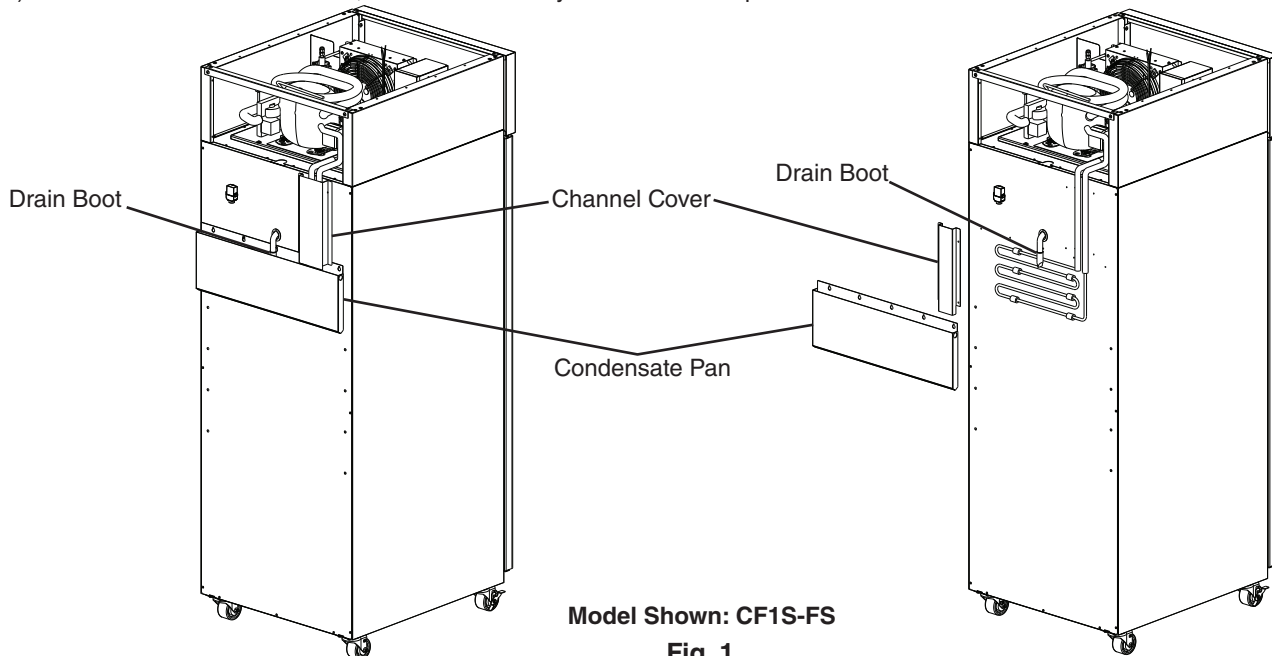

Fig. 1
- 3) Remove the channel cover and condensate pan from the rear of the appliance. See Fig. 1.